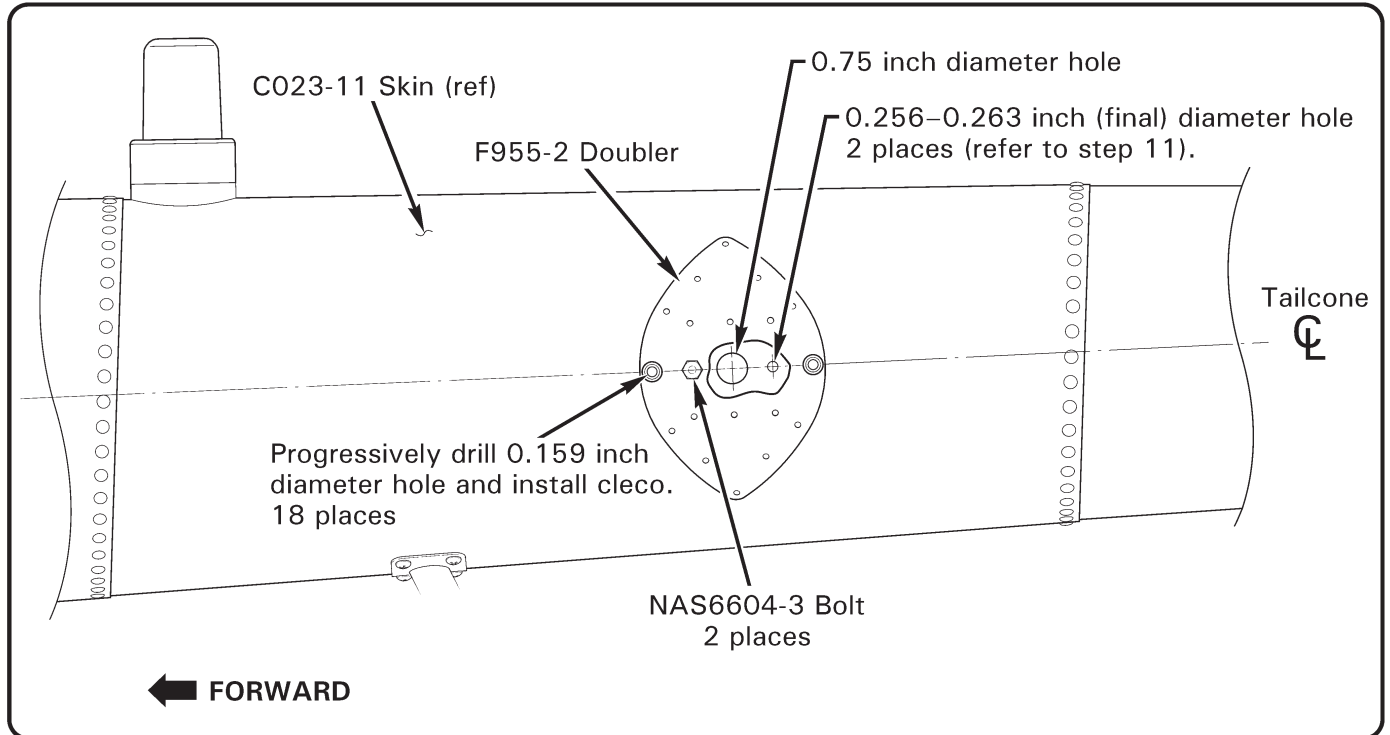

FIGURE 6 Positioning doubler for drilling
10. Refer to Figure 6. Locate (1) F955-2 doubler to tailcone using (2) NAS6604-3 bolts and secure with tape as required. Mark doubler to indicate top & bottom, and left or right side of tailcone. Using doubler as template and a #21 drill fitted with drill stop, begin at center of doubler working outward and progressively match drill 0.158-0.164 inch diameter hole & install clecos thru C023-11 skin (18) places. Remove securing hardware & doubler. Repeat procedure on opposite side of tailcone using remaining doubler.
11. With both doublers removed and using letter “F” twist drill fitted with drill stop, enlarge (2) forward & (2) aft 0.250 inch diameter bolt holes in C023-11 skin to 0.256–0.263 inch final diameter. Deburr all newly drilled holes and clean up debris (strobe light may be removed to facilitate access to tailcone interior).